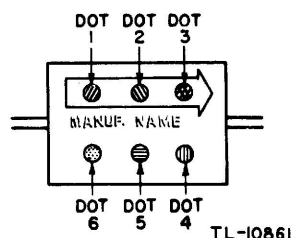

Fig 3 Molded mica capacitors: RMA six dot color code
3. THE RMA CODE FOR MICA CAPACITORS (fig. 1F). The RMA (Radio Manufacturers Association) code is illustrated in figure 3. This code uses six colored dots with an arrow to show the sequence. The first three dots give the first three digits of the capacitance in micromicrofarads, the fourth dot (directly below the third) gives the decimal multiplier, the fifth indicates the tolerance in capaci-